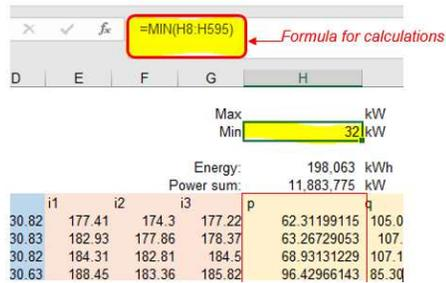
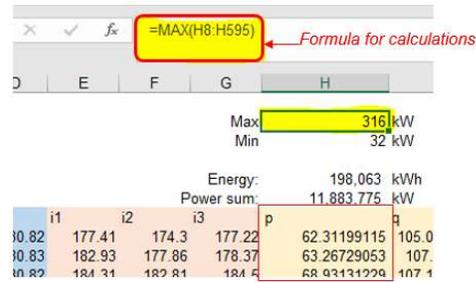

Figure 6: Minimum power calculations
Figure 7: Maximum power calculation
- Also, find out minimum power and maximum power of the average total active power, it can be done as shown in Figure 6 and Figure 7,